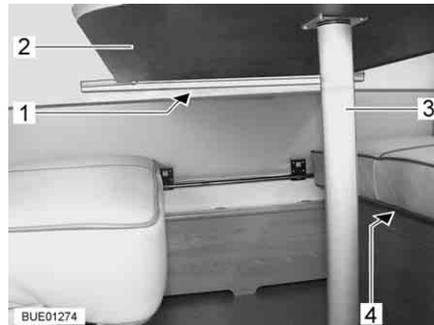
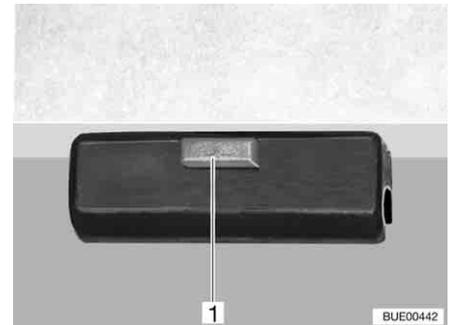

Fig. 78 Suspension table with changeable table leg
Fig. 79 Lock
- Slightly raise the front of the table-top (Fig. 78,2).
- Remove table leg (Fig. 78,3) and lay it aside.
- Press the release knob (Fig. 79,1) on the lock (Fig. 78,1).
- Place the table-top in the holders (Fig. 78,4) on the bench seats.